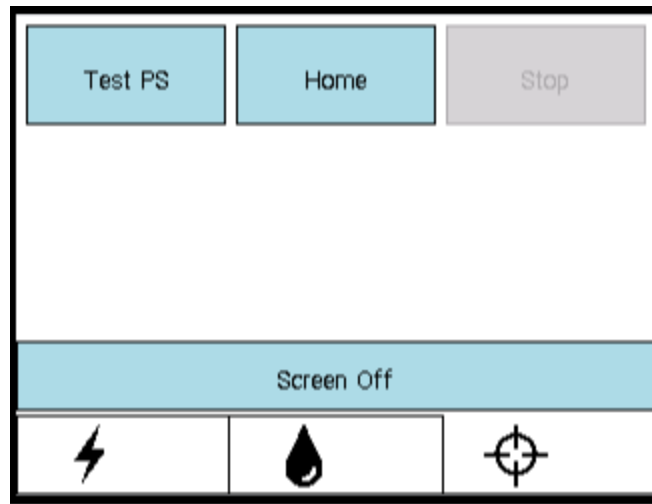
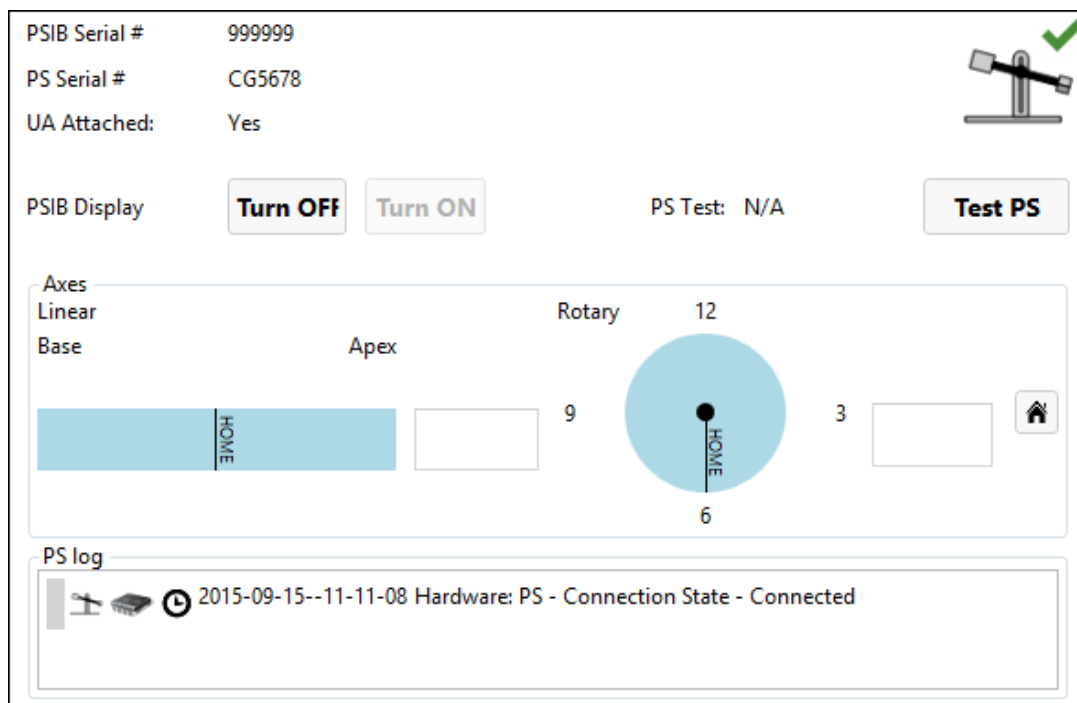

Figure 7: PSIB display - PS tab
Figure 8: PS information box in Setup workspace
- b. On the PSIB display, select the PS tab  and click **Test PS** (Figure 7). The system will translate the PS forward and backward to test the continuity and functionality of the translation axis as well as home the PS in the translation axis. The system will also rotate the rotational axis clockwise and counter-clockwise to test the continuity and functionality of the rotational axis. (This can also be done from the TDC Setup workspace in the PS information box in the bottom-right quadrant Figure 8.) You can move to the next step while the PS test is in progress.